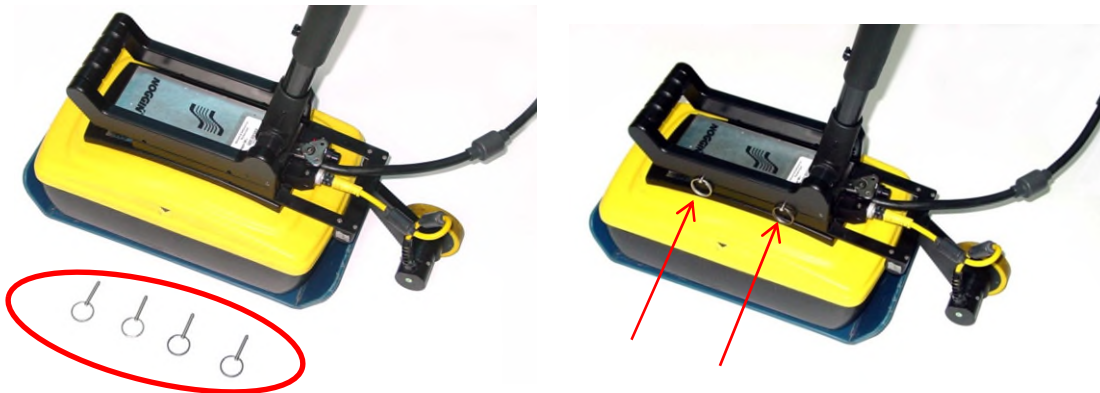

Figure 2-59: Quick release pins (left), inserted to secure handle to Noggin
6. Insert the four quick-release pins to secure the handle (Figure 2-59).